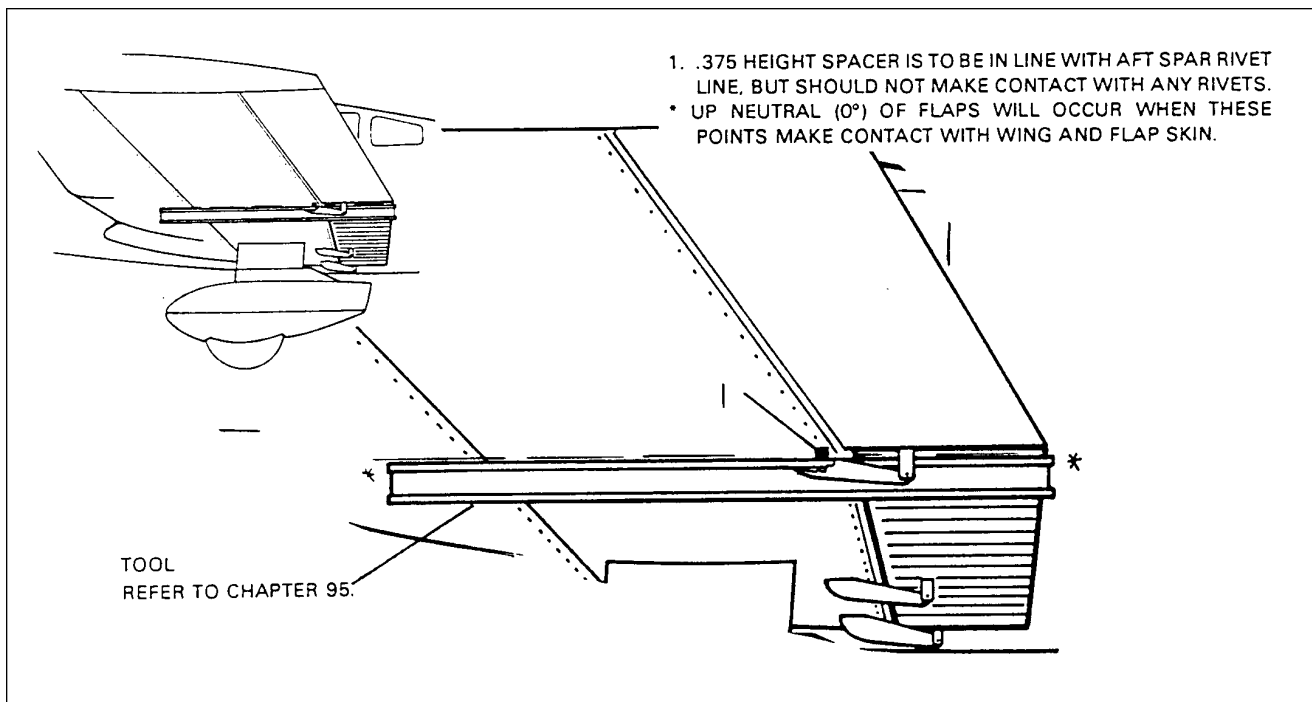

Figure 27-21. Flap Rigging Tool
7. To check up-neutral position of flaps, place a flap rigging tool as shown in figure 27-21 against underside of wing and flap as close as possible to outboard end of flap without contacting any rivets. Tool must be positioned parallel with wing ribs with aft end of tool even with trailing edge of flap. (This tool may be fabricated from dimensions given in chapter 95.)